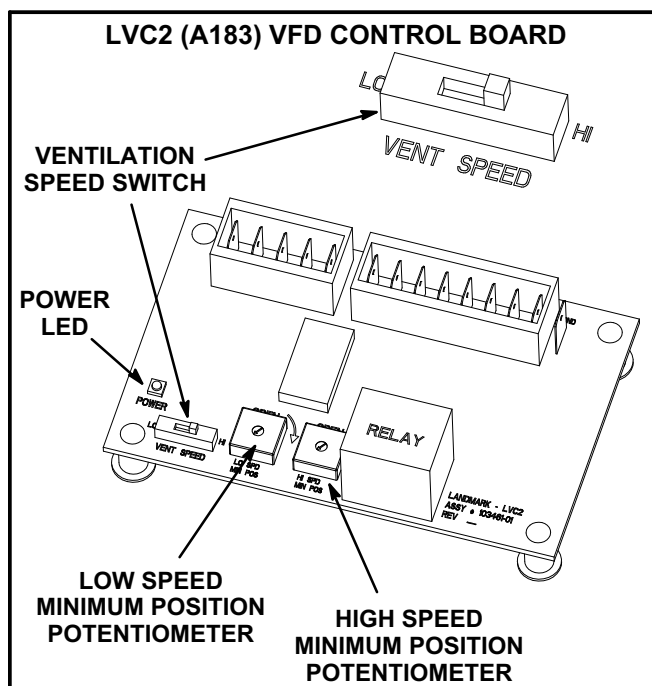

FIGURE 22
To save energy during ventilation, the blower speed can be set to low. This is accomplished by changing the ventilation speed switch on the VFD control board to "LO". See figure 22.
To maintain required minimum ventilation air volumes when the unit is in the occupied mode, two minimum damper positions must be set. A high and a low speed potentiometer are provided on the VFD control board to adjust minimum damper position. See figure 22.
- 5- Check the power LED on the board. See figure 22.
- 8- When LVC2 24VAC thermostat blower (G) input and 24VDC power are present, check the LVC2 low and high speed outputs. The LVC2 uses inverse logic to enable the blower; 1VDC will be read at the enabled blower speed terminal. See table 17.